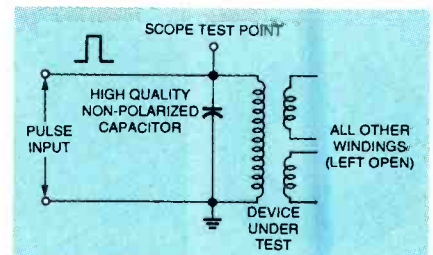

FIG. 1—IF YOU HAVE A SCOPE, a ring test using this set up is the easiest way to test a flyback.
- Connect a high quality capacitor across a larger winding (not the filament) of the suspect device; see Fig. 1. Hope for a resonant frequency of a few kHz. You may need to select the capacitor value for best results. I have found that a capacitor in the 0.001- to 1- μ F (non-polarized) range will usually be satisfactory.